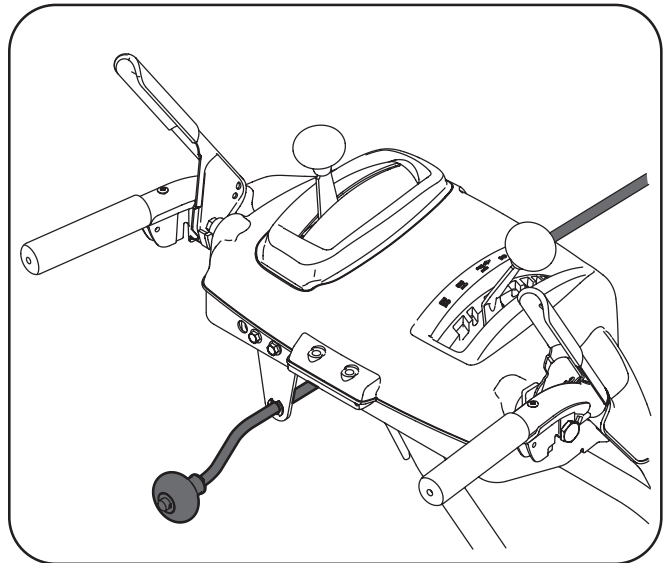

Figure 3-6
- Guide the chute crank rod through the bracket located on the rear of the handle panel. See Fig. 3-6.